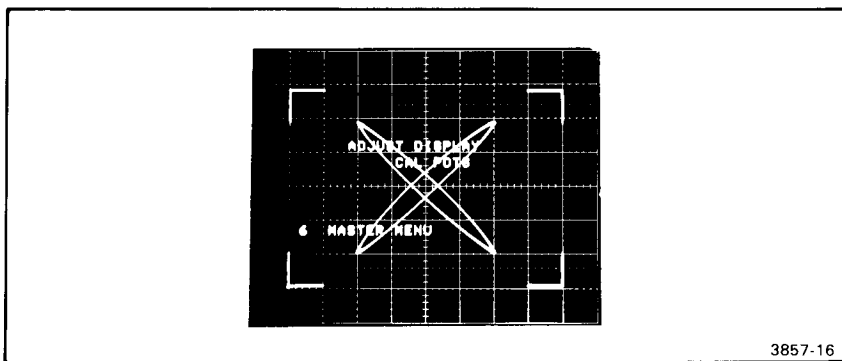

Figure 2-8. Adjust HORIZ GAIN.
- Step 3** Adjust the HORIZ GAIN (horizontal gain) control to bring the right edge of the DISPLAY CAL PATTERN into alignment with vertical graticule line 9 of the display as shown in Figure 2-8. These adjustments are interactive and you may need to work back and forth between them to optimize pattern and graticule alignment.